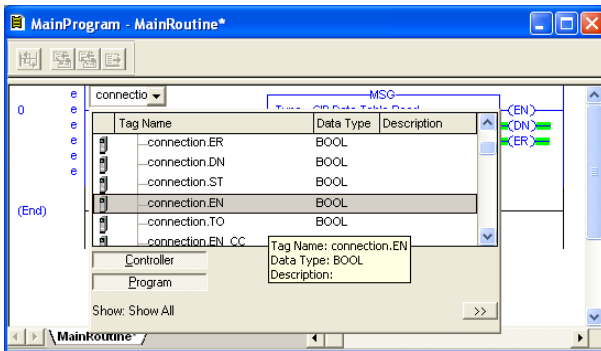

Figure 101: Configure XIO Element
- a) Double-click on the XIO element located to the left of the MSG block. In the drop-down box, double-click on the “connection.EN” field. Refer to Figure 101. This configuration causes the MSG instruction to automatically retrigger itself when it completes. While this is acceptable for the purposes of this example, it can produce high network utilization. In actual practice, it may be desirable to incorporate additional logic elements to allow triggering the MSG instruction at a specific rate or under specific conditions.